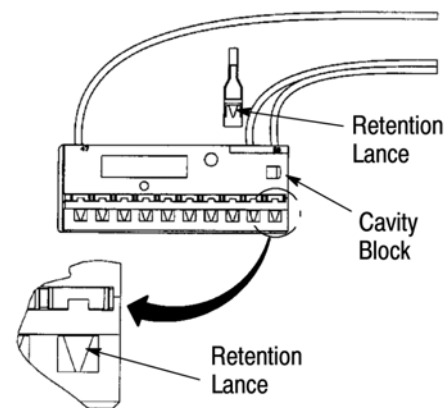

Figure 2
- Align contact retention lance with outside of selected cavity in the cavity block. Contacts are polarized for correct orientation. See Figure 2.